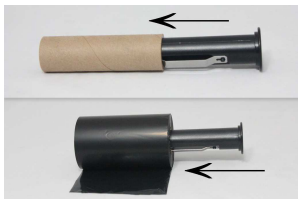

Figure 2
Step 2: Push the two black plastic spindles into the full ribbon roll and the empty core. **Ensure that your spindles are inserted exactly as shown in Figure 2.** The ribbon has ink on only one side (coating-side-out), and the spindle must be inserted properly in order for it to print.